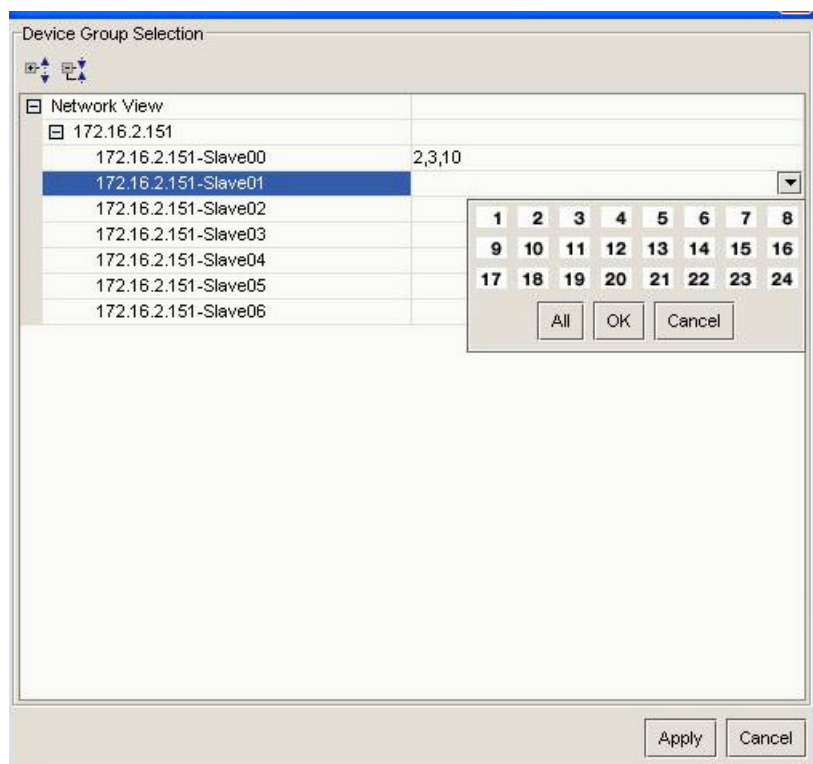

Figure 9-6. Device group selection dialog
Step1: After pushing the Select button, the system will display a dialog to choose devices and port as below Figure 9-6: